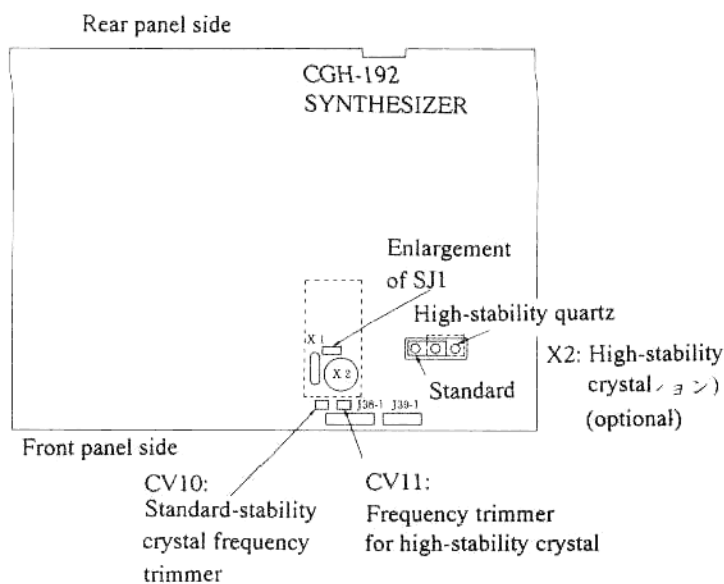

Figure 7.4 Frequency Adjustment
- (1) Remove the covers as described in 7.1
- (2) Turn ON the POWER switch ⑥ and receive a standard frequency station (JJY, WWV, etc.) in CW mode. Make sure all digits including the 10Hz digit is tuned to the frequency.
- (3) Press and hold the METER switch ③, then adjust the trimmer capacitor on the front of the CGH-192 synthesizer unit (Figure 7.4) to achieve a zero beat. Normally, adjust CV10. If using a high stability crystal, set switch SJ1 to high-stability crystal and adjust CV11.
- (4) This completes adjustment of the standard oscillator. Turn the POWER switch ⑥ OFF and replace the lower covers.